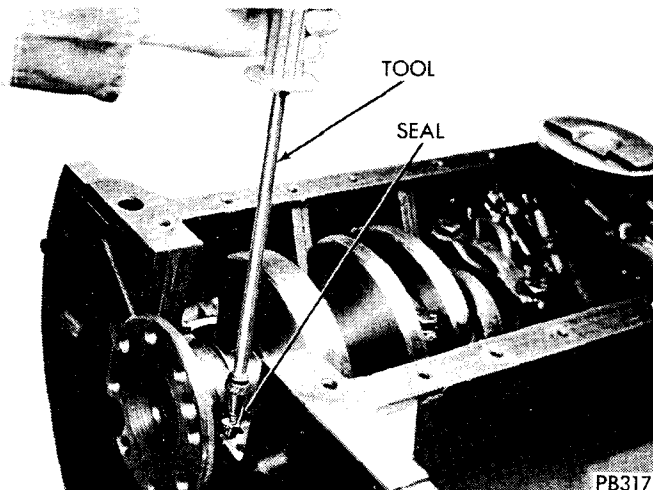

Fig. 41—Removing Upper Oil Seal with Tool C-4148
(1) With oil pan removed, remove rear seal retainer and rear main bearing cap.
(2) Remove lower rope oil seal by prying from the side with a small screwdriver.
(3) Remove upper rope seal by turning in Tool C-4148 into the end of the seal, being careful not to damage the crankshaft (Fig. 41). Pull the seal out with the tool while rotating the crankshaft.